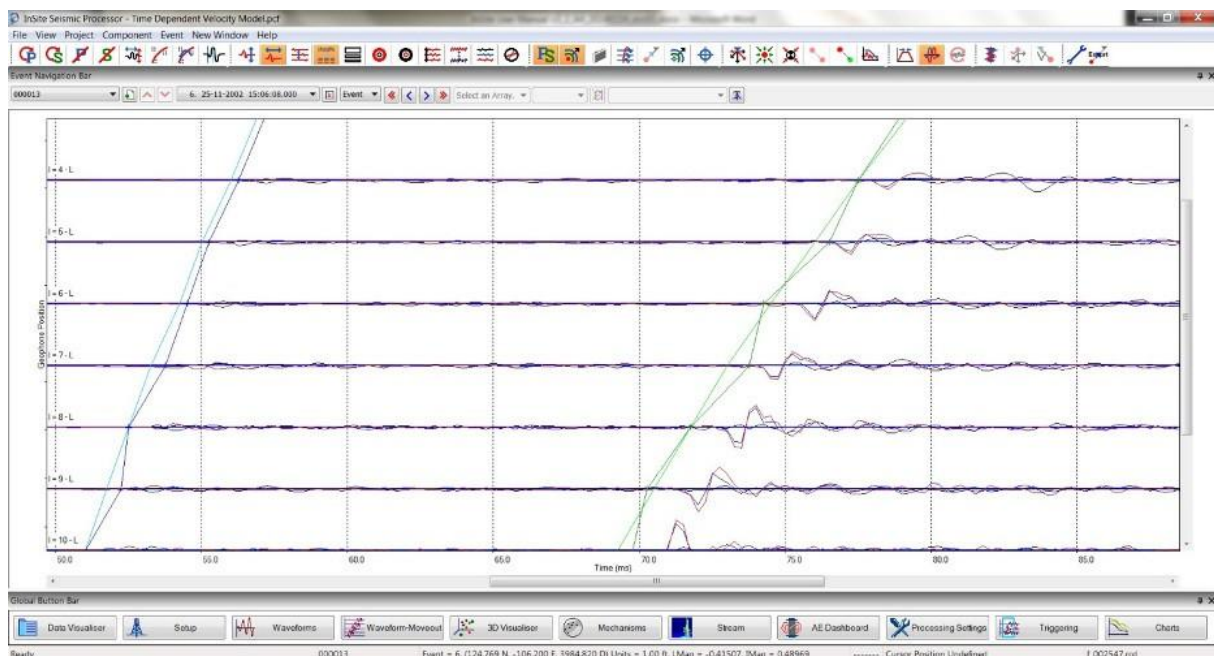

Figure 6-31: Waveform moveout view scroll bar navigation
- Left-mouse button click on the waveform background and dragging sideways performs a horizontal expansion for all waveforms in the plot. When performed, a horizontal scroll bar appears so the waveform can be navigated by dragging the scroll bar left and right (Figure 6-31);
- Left-mouse button click on the waveform background and dragging up or down performs a vertical expansion, limiting the instruments shown in the plot. When performed, a vertical scroll bar appears so the instruments can be navigated by using the mouse wheel or by dragging the scroll bar up and down (Figure 6-31);